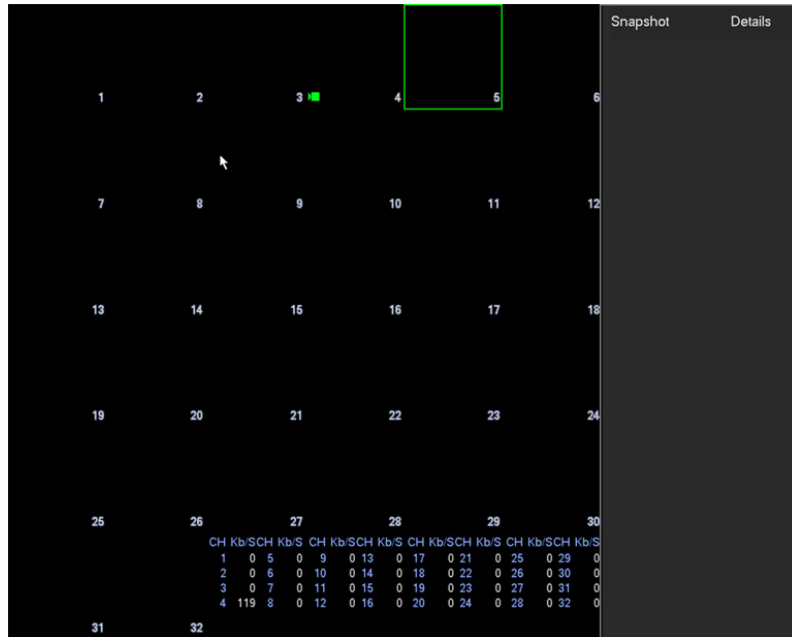

Figure 3-36
- ◇ Human face: System will display human face information on the right pane of the preview interface. See Figure 3-36.